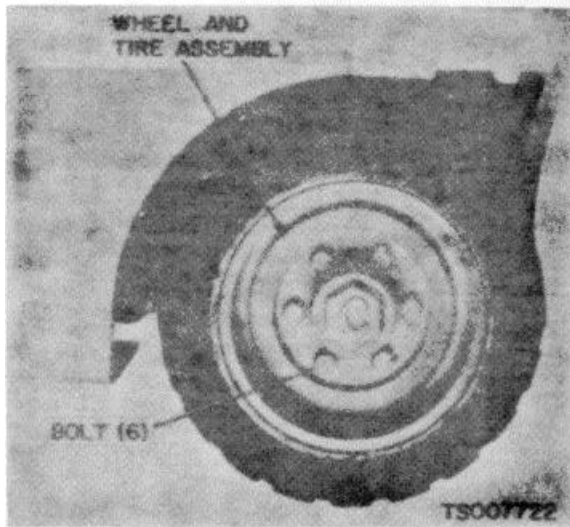

Figure 4-49. Wheel and Tire, Removal and Installation
(1) To raise the front end of the truck for wheel and tire replacement, tilt the upright back as far as possible and install a wooden block under the bottom of the uprights. Tilt the upright forward to raise the front end of the truck. To raise the rear wheels for wheel and tire replacement, use a jack or hoist. Place blocking under the frame.
(2) Remove the bolts that secure the wheel and tire assembly to the wheel hub and remove the wheel and tire as shown in figure 4-49.
(1) Clean the wheels and tires with water. Remove greasy and gummy deposits with dry cleaning solvent P-D-680.
(2) Inspect the wheels for distortion, cracks, elongated or worn mounting holes, and other damage.
(3) Inspect the tires for cuts, imbedded glass or metal, wear, deterioration caused by oil, grease, or chemicals, and other damage. Remove imbedded particles. Use a sharp knife to trim around cuts, removing the edges which could catch and cause further enlargement of the damaged area.
(4) If either the wheel or tire is damaged, replace the parts as an assembly.
c. *Installation.* Install the wheel and tire assembly on the hub as shown in figure 4-49. Torque front wheel bolts to 80-90 foot-pounds and torque rear wheel bolts to 115-125 foot-pounds.